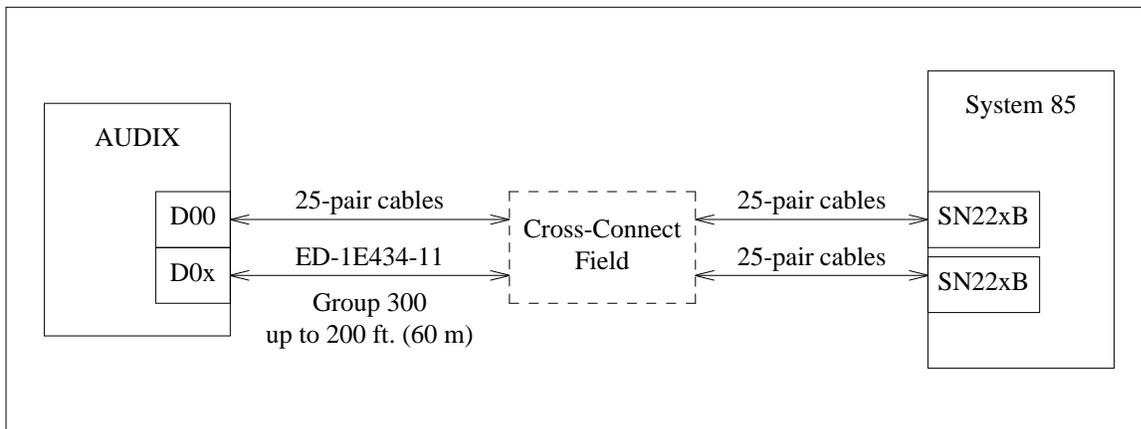

Figure 1: System 85 Voice Port Cabling
- Voice links connecting AUDIX Voice Port (VPT) circuit packs to analog circuit packs administered as a call-distribution group on the switch (required for all systems). See figure 1.
Cables for required AUDIX connections are shown in figures 1 through 6. Some descriptions appear in the *Configuration* section. Cable lengths, connector genders, and ordering codes are covered in *AUDIX Reference Manual*, *AUDIX-L Installation Manual*, and *AUDIX Installation Manual*.